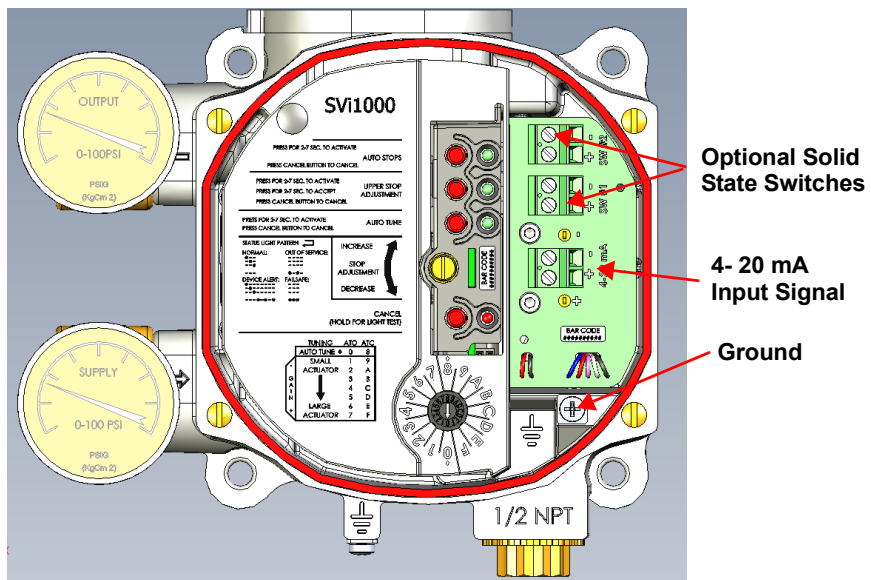

Figure 19 Connections to Electronics Module (via Interface Board)
2. Connect the +/- terminals to the current source: + to + and - to - (Figure 19).
4. Locate the 4-20 mA connector on the interface board (Figure 19).